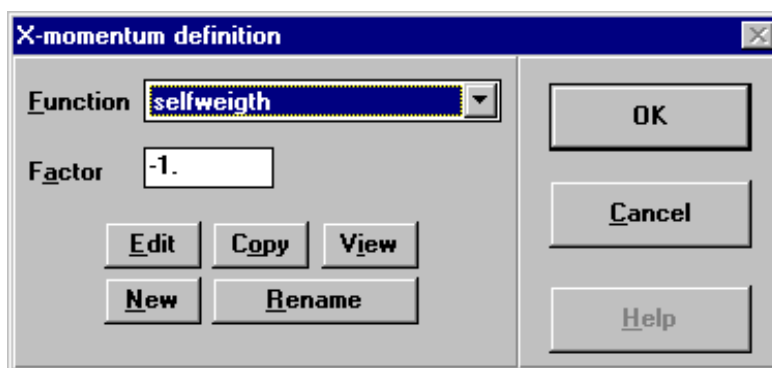

Figure 6.38
1. Click the X-momentum  or Y-momentum  button. This brings up the X-momentum or Y-momentum dialog box as shown in figure 6.38.